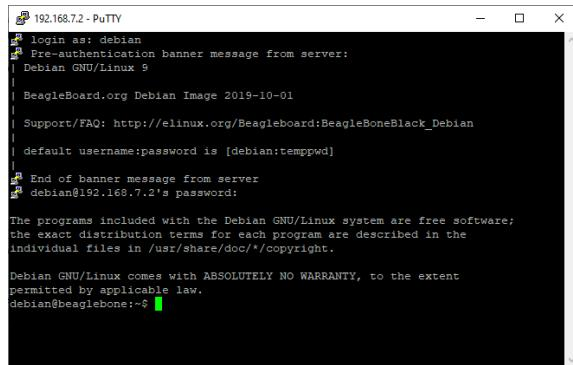

Figure 4.7: Open Session
8. PuTTY should now be logged into the Debian account on the BeagleBone. A Window should open similar to Fig. 4.7.